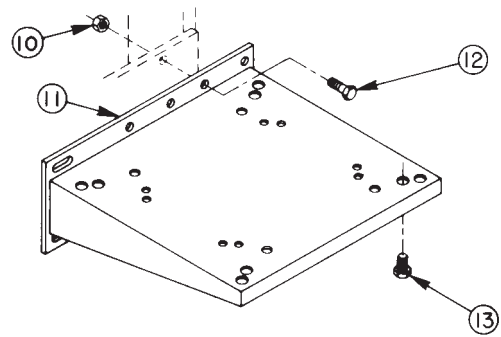

FIGURE 9
16. See Figure 9. Mount the pump mounting bracket to the press frame with the two 3/8 inch (9.53 mm) locknuts and bolts.